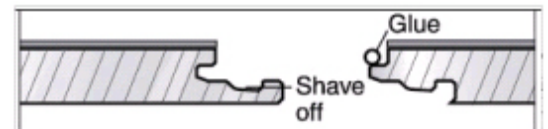

Fig. 7
1. Using a small plane or utility knife, plane or shave off 75% of the ledge of the groove (Fig. 7).